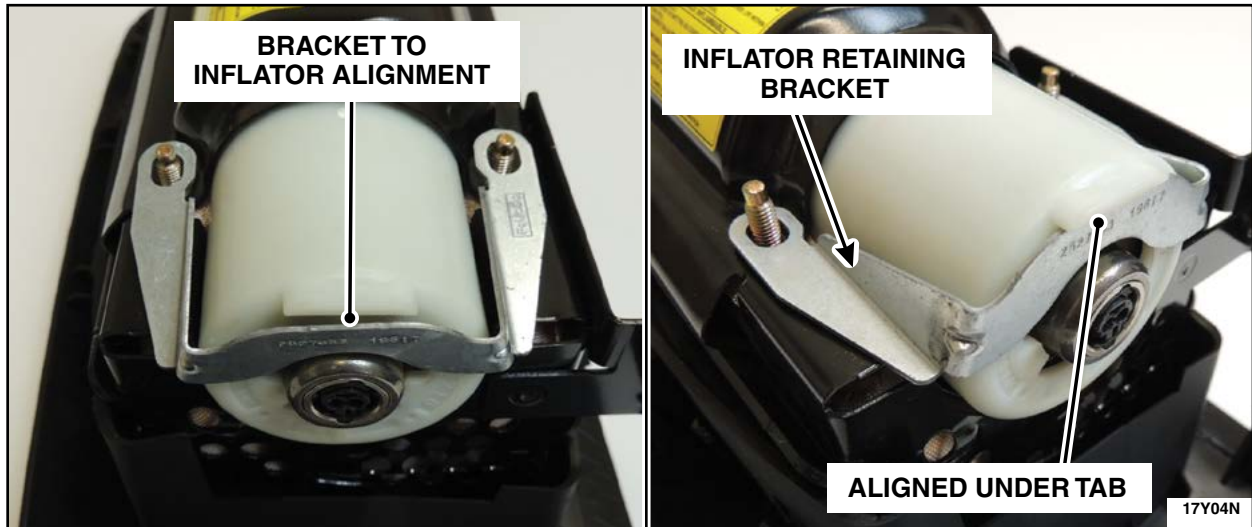

FIGURE 16
10. Align and Install the *new* inflator retaining bracket. See Figure 16.